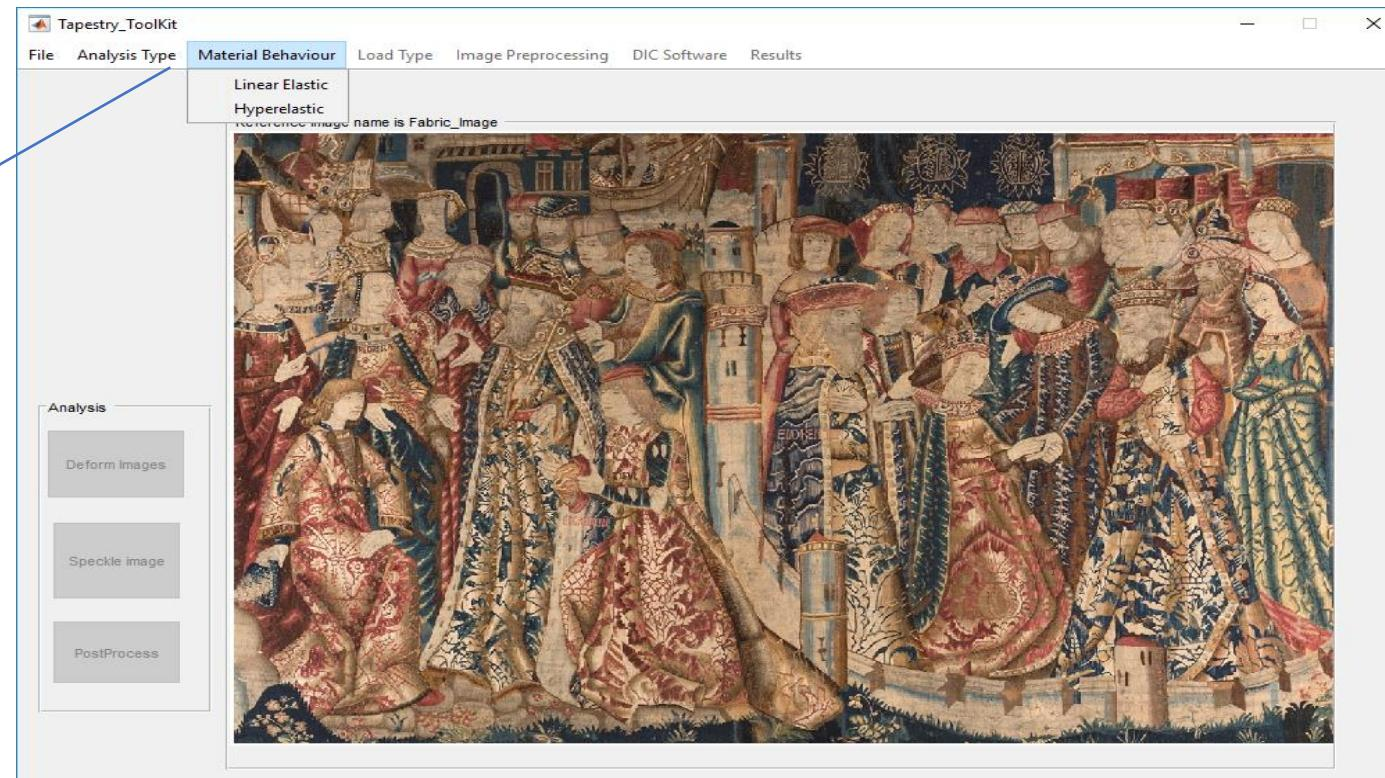

Figure 4
- Once the analysis type has been selected, the **Material Behaviour** menu becomes active (see Figure 4)!